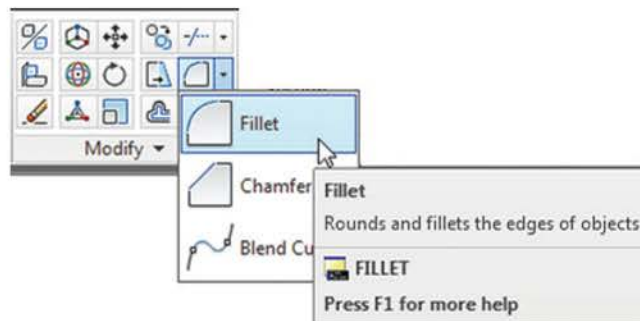

Fig. 6.37 Select Fillet from the menu in the Home/Modify panel
2. Call **Fillet** – *click* the arrow to the right of the tool icon in the **Home/Modify** panel and select **Fillet** from the menu that appears (Fig. 6.37), *pick Fillet* from the **Modify** drop-down menu, or *enter f* or *fillet*. The command sequence then shows: